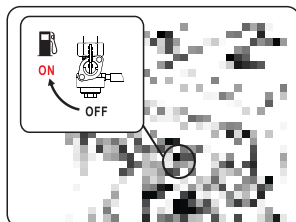

Fig 9
- Turn fuel valve to the “ON” position. (See fig 9)